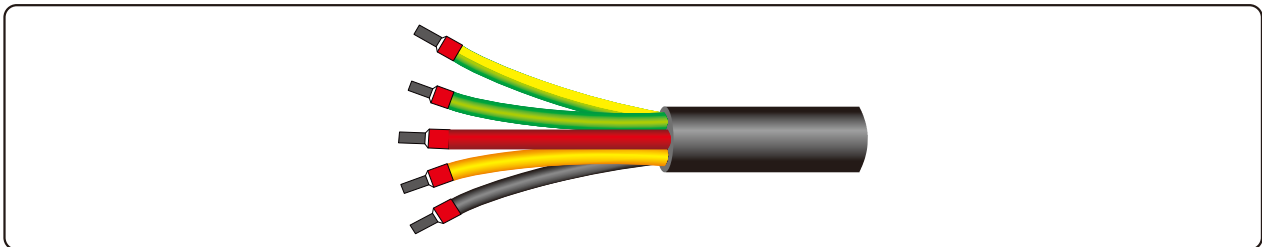

Figure 5.5 Crimping Euro type terminals
**Step 2** Crimp Euro type terminals using special crimping tool, as shown in Figure 5.5.